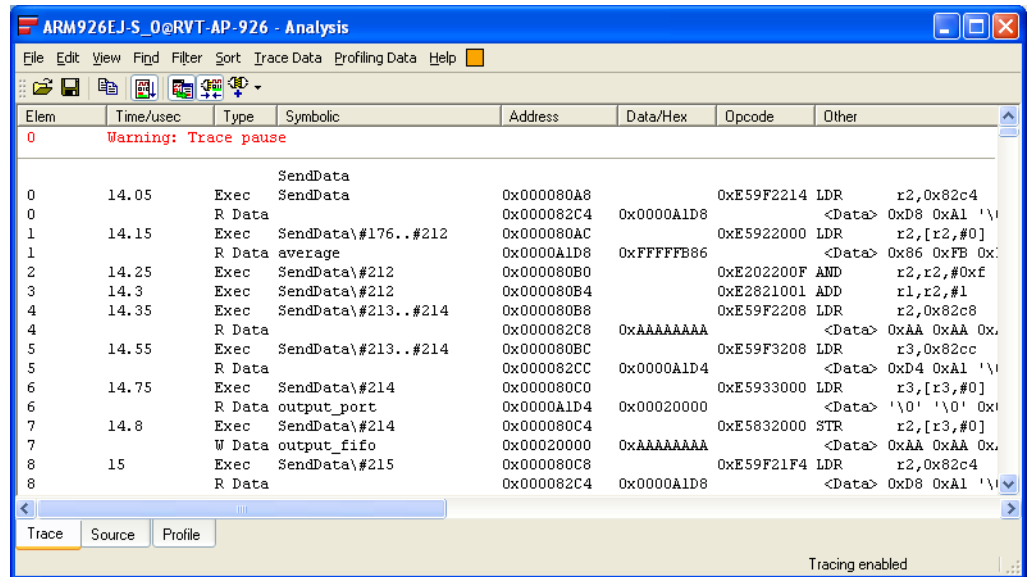

Figure 10-55 Captured trace in Analysis window
6. Select **Inferred Registers** from the **Trace Data** menu to hide the inferred register view. Figure 10-55 on page 10-50 shows an example: